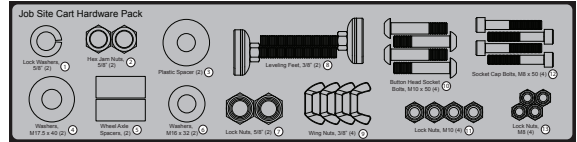

Fig. 1
1. Locate all of the job site cart components shown on page 1. All of the hardware needed to assemble the job site cart is located on the included hardware pack (see Fig. 1). In order to easily identify the hardware used in each of the following steps, the different pieces of hardware are numbered on the hardware pack and in the figures. If you are missing the hardware pack or any of the other job site cart components, call the SawStop Service Department at 503-682-6222 for replacements.